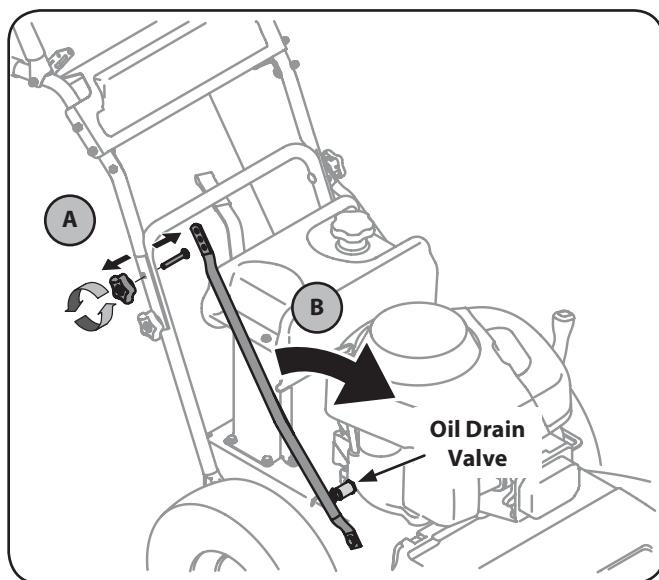

Figure 6-1
2. Remove the upper star knob and carriage screw on the right side of the handle. See Fig. 6-1.
3. Pivot the support tube forward to allow room to connect the oil drain hose to the oil drain valve. See Fig. 6-1.